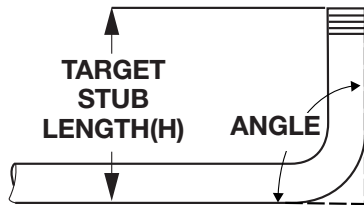

Figure 18
3. Determine the Stub Height (H) and the Bend Angle. (Fig.18) These numbers determine the appropriate numbers needed from the bending tables. Different types of bends use different tables and variables follow the instructions for the type of bend to know what variables are needed.